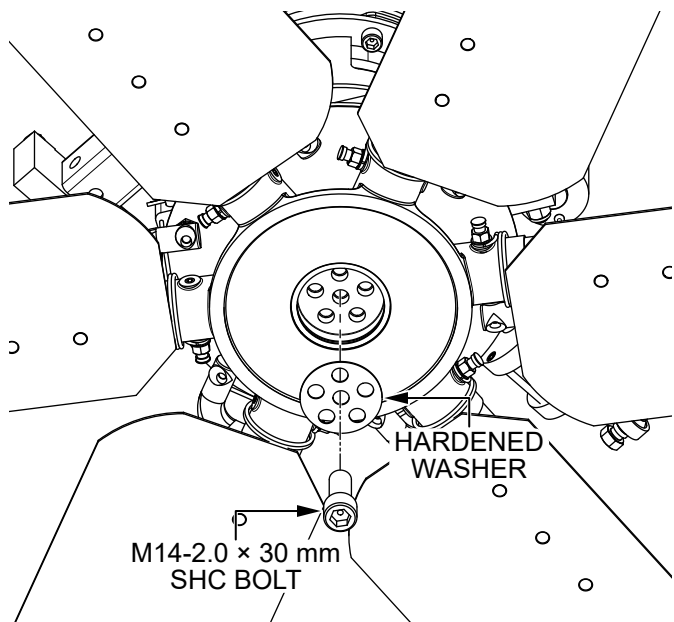

Figure 55. Install New Center Bolt And Washer
- Install the new **M14-2.0 × 30 mm SHC bolt** in the center position along with a **new hardened washer** as shown in Figure 55. Torque the center bolt to 40 lbf-ft (54.2 N·m).